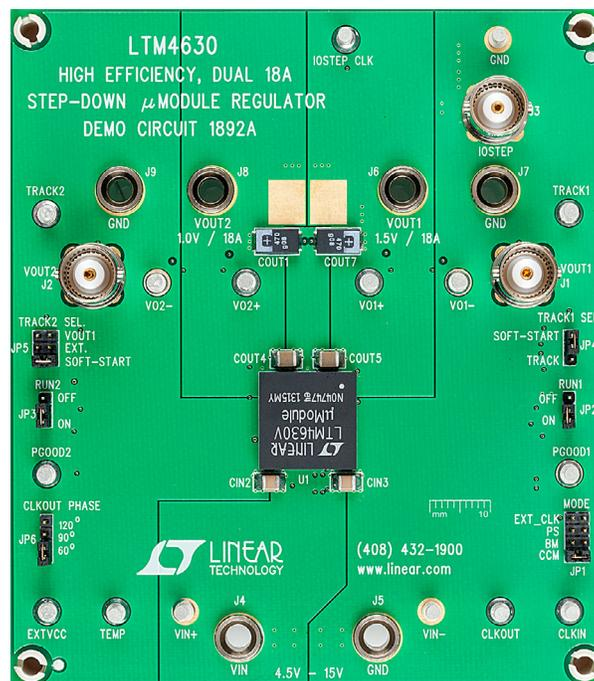

Figure 1. DC1892A
- With power off, connect the input power supply, load and meters, as shown in Figure 1. Preset the load to 0A and the V_{IN} supply to 12V.